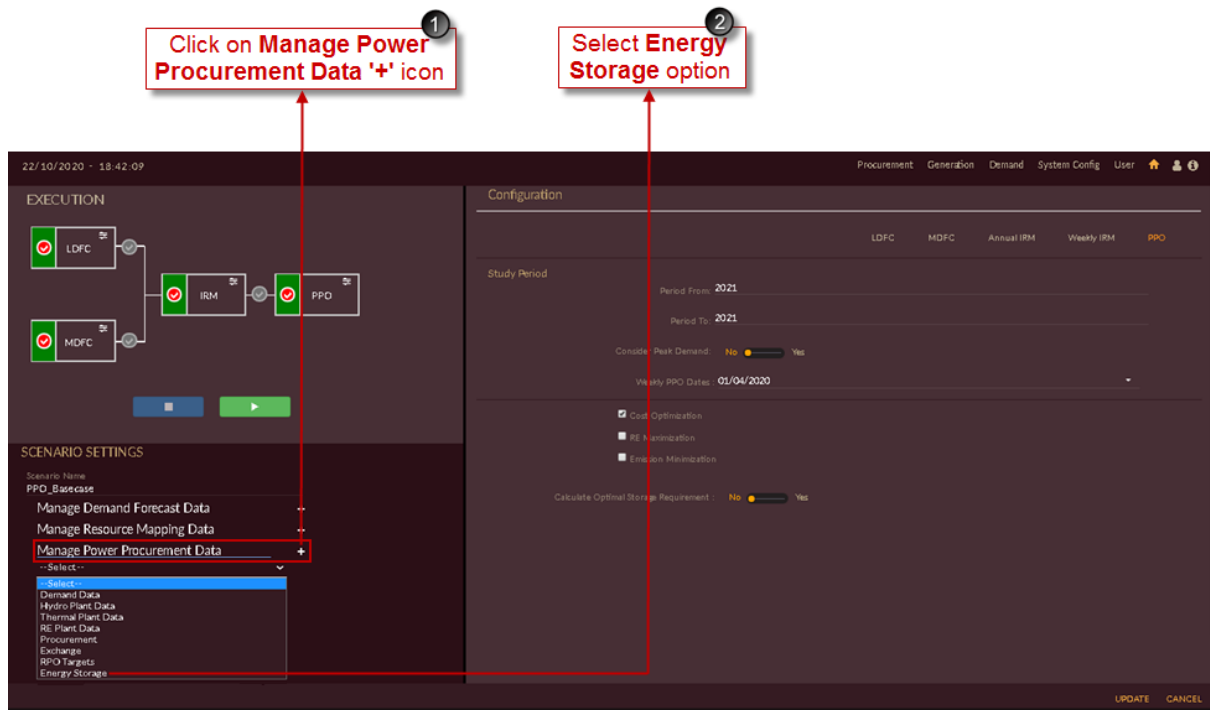

Figure 282. Manage Energy Storage Data
2. Select **Energy Storage** from the drop-down list as shown in Figure 282.